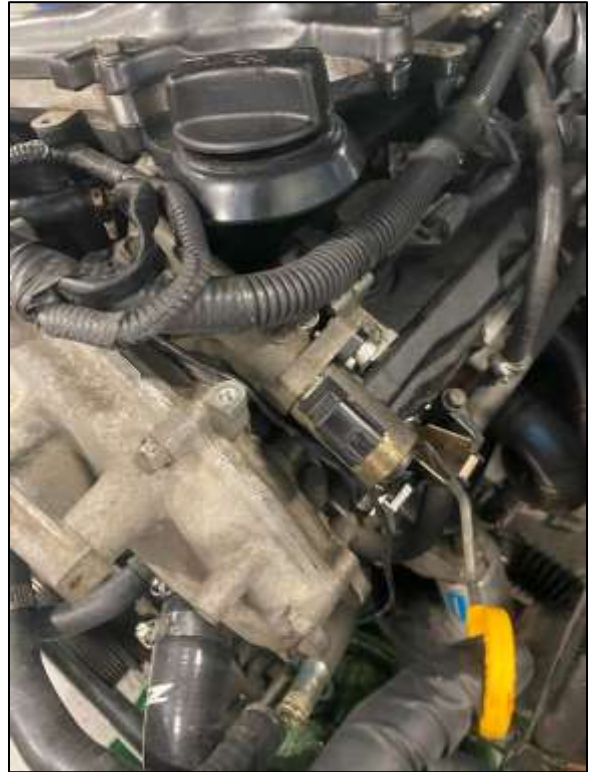

Figure 31
22. Locate the Oil Control Solenoid Relocation Bracket (#59). Attach it to the Solenoid with (2) two Socket Head Screws that are included with the Bracket.
23. Reposition the Solenoid into its housing. The Electrical Connector should be clocked upward now to give more clearance to the Supercharger. Torque to **87-112 in-lbs.** *Figure 31.*